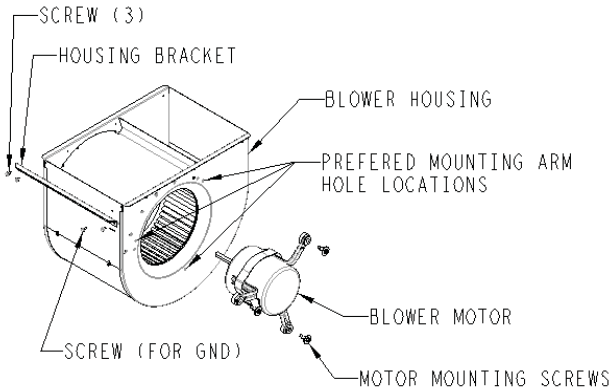

Fig. 1 – Blower Housing Assembly
This instruction covers the installation of replacement blower housing kit (See Fig. 1). The kit is designed to allow easy replacement of existing housing.
9. Remove housing bracket from existing housing (See Fig. 1) and discard existing blower housing and wheel.